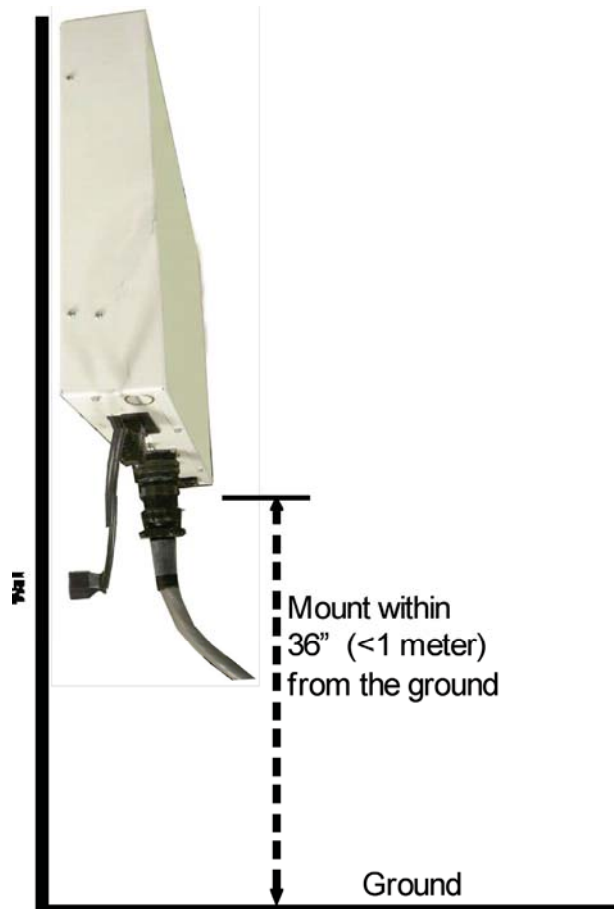

Figure 11: Power Supply – showing wall mount
- As shown in Figure 11, when mounted on the wall –unit shall be installed within “3 feet” from the ground, and within 20 feet from the STAR Receiver